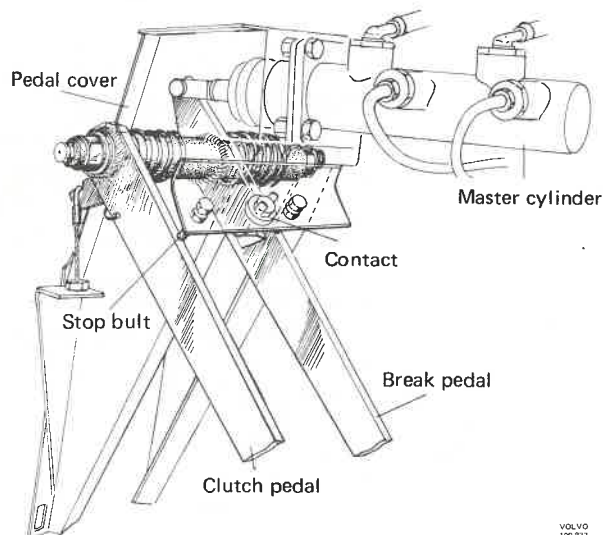

Fig. 41-4. Checking the curvature of thrust plate
1. Remove the stop bult, see Fig. 41-4.